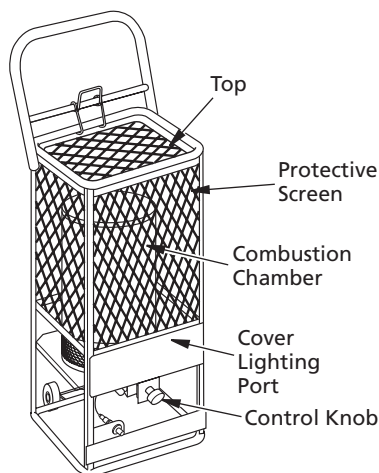
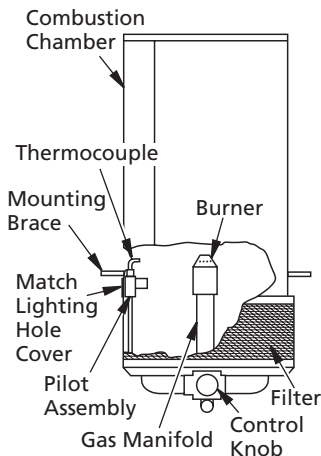

Figure 3 - 125,000 Btu/Hr Model (6BY70)
Figure 6 - Appliance Parts Identification
3. Turn the control knob clockwise to the OFF position. See Figure 3, page 3 and Figure 6 for location of appliance parts.
- 7b. **To match light the pilot,** move the lighting hole cover aside (see Figure 6, page 8) and place a lighted match into hole. Press control knob and hold while lighting and observing pilot burner. Ensure that pilot burner ignites from match. Allow pilot to burn approximately 30 seconds before releasing control knob. If pilot does not remain lit, repeat lighting operation allowing a longer period of time before releasing control knob.